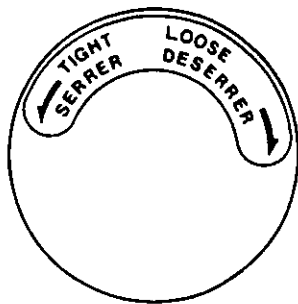

FIGURE 18.
4. If it is necessary to add fluid, unscrew the cap on the expansion tank. The cap has left hand threads. See figure 18. Remove the rubber bladder. Add fluid using a funnel. Do not overfill.